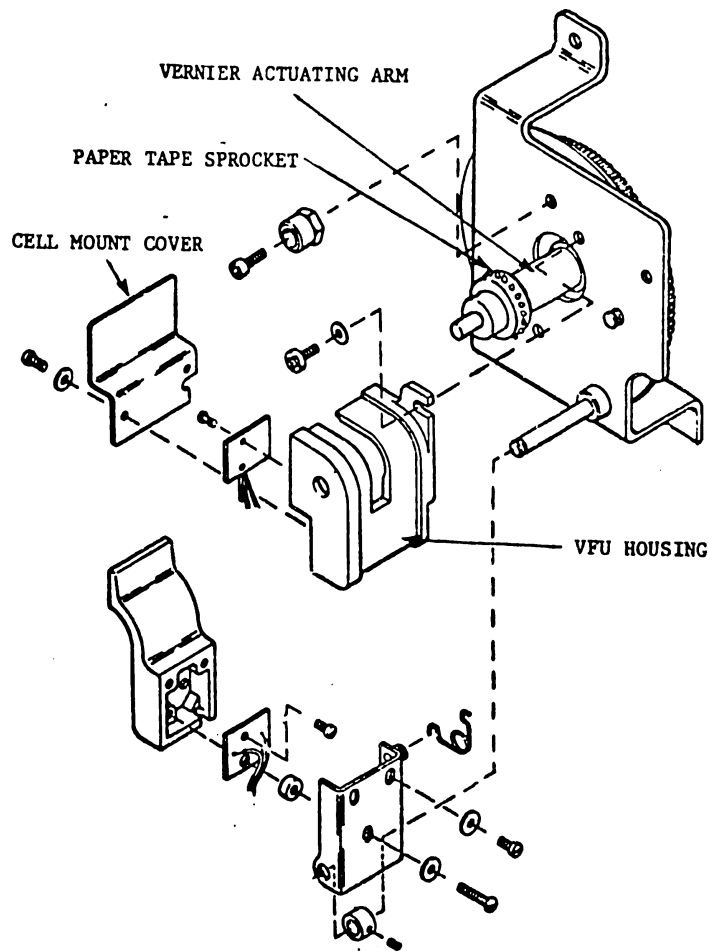

FIGURE 5-24 VERTICAL FORMAT UNIT
5.3.13.3 Removal and Replacement (Figure 5-24)